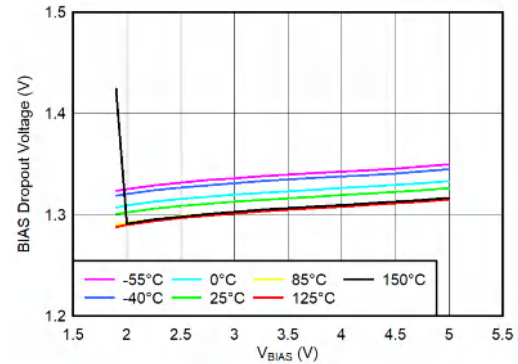

Figure 6-29.  $V_{IN}$  Dropout Voltage vs  $(V_{BIAS} - V_{OUT})$  and Temperature ( $T_J$ )
- (1) Adjustable devices tested at 0.8 V; resistor tolerance is not taken into account.
- (2) Dropout is defined as the voltage from  $V_{IN}$  to  $V_{OUT}$  when  $V_{OUT}$  is 3% below nominal.
- (3) 3.25 V is a test condition of this device and can be adjusted by referring to Figure 6-29.